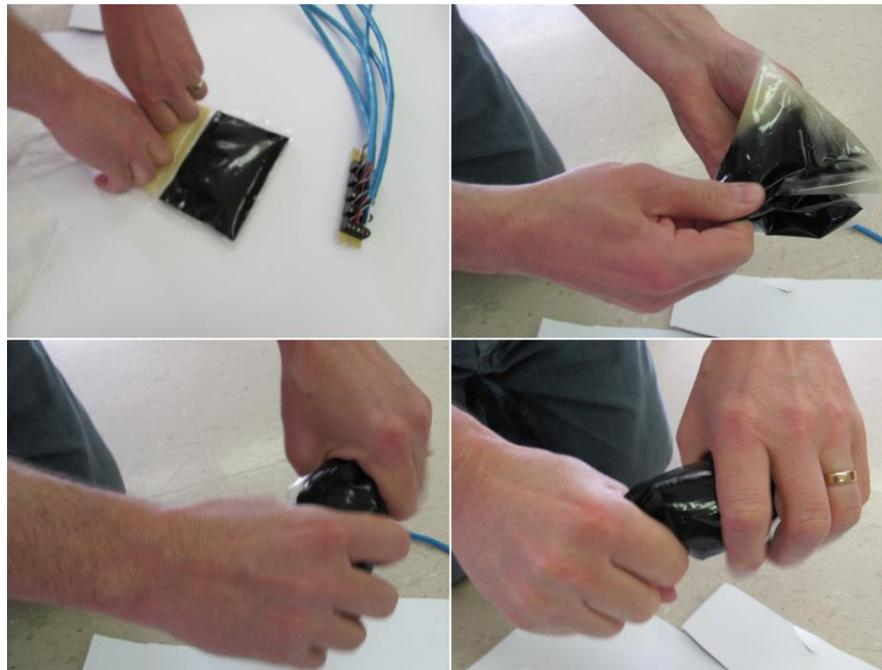

Figure 2.6 Mixing potting compound. Note, thoroughly mix the potting compound for 1 minute before using.
12. Pot the unit with the supplied 3M 2131 potting compound following the directions on the package and using the supplied gloves. In colder weather make sure to warm up the potting compound before mixing, following the recommendations on the package. (Figure 2.6)